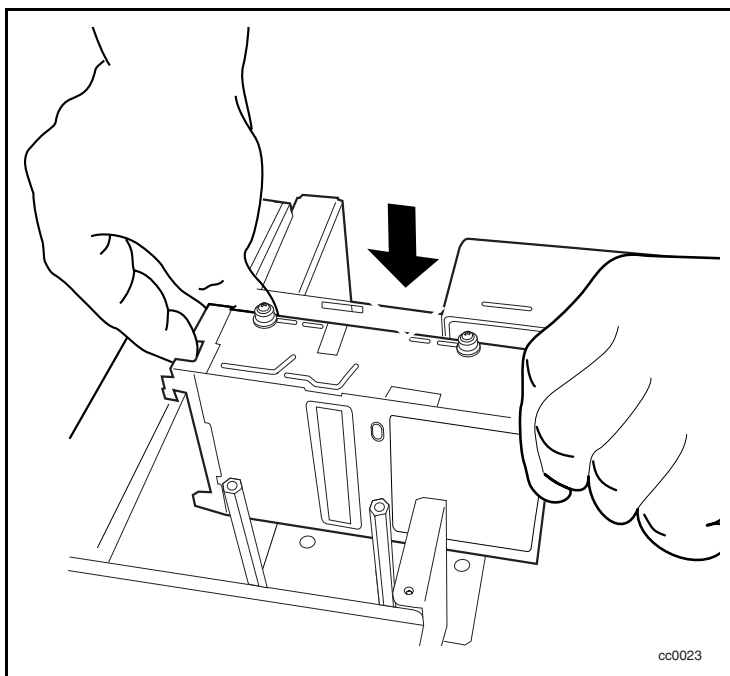

Figure 6. Installing the new drive
2. Lower the new drive into the chassis (see Figure 6).